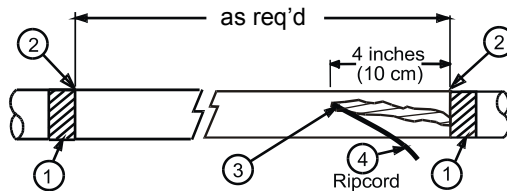

**Figure 5 – 1050-type core tube removal tool.**
**4.5** Use the 1050-type tool to ring cut the core tube (Figure 5). If removing more than 5 feet of core tube, cut and remove the core tube in shorter sections. Flex the core tube at the ring cut to separate and remove from the cable. See OFS IP-054, 1050 Series Core Tube Entry Tools, for detailed information regarding the 1050-type tools.